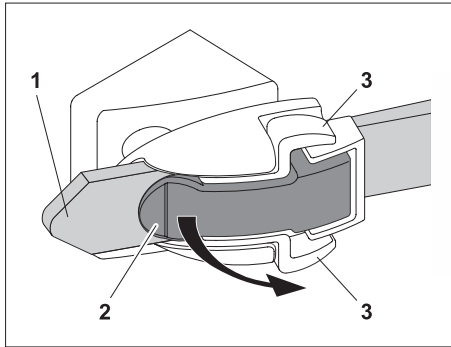

Fig. 37: Marker ball antenna – ratchet strap lock
2. Release the ratchet strap (fig. 37).